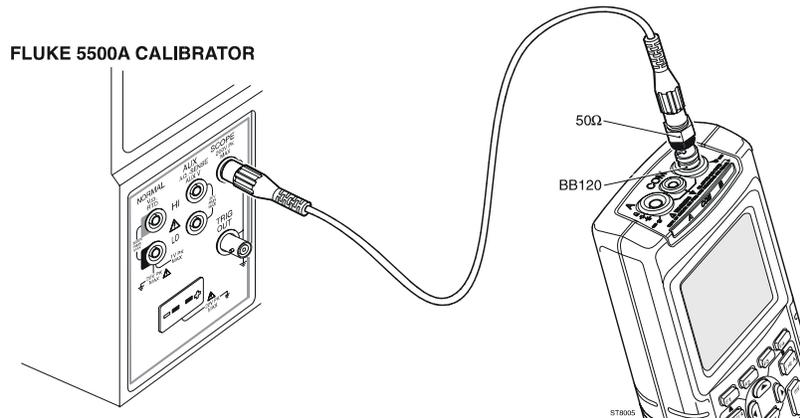

Figure 4-5. 5500A Scope Output to Input B
2. Connect the test tool to the 5500A as shown in Figure 4-5.